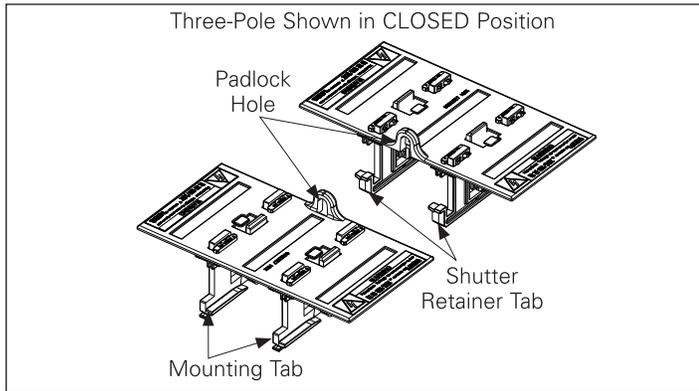

Figure 2. Shutter Assemblies
A complete drawout cassette shutter installation is comprised of two duplicate, already assembled, shutter assemblies (**Figure 2**). Become familiar with the shutter assemblies provided.
Step 2: Note two mounting tabs located on the shutter assembly opposite the padlock hole and the shutter retainers on the opposite side (**Figure 2**).